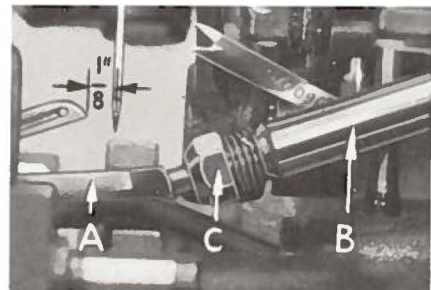
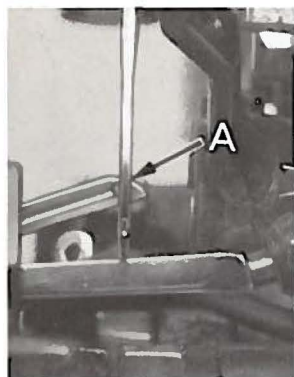

Fig. 5
Fig. 7
At this point, insert lower looper (A, Fig. 5) into bar (B). With lower looper at the left end of its stroke, set looper point $\frac{1}{8}$ inch from center of needle (Fig. 5), using looper gauge No. 21225 $\frac{1}{8}$. Do not have low-
Now finish lower looper adjustment. As lower looper moves to the right, its point should be set into the needle scarf (A, Fig. 7) until the needle springs forward from rear guard surface another .002 - .004 inch. Tighten nut (C, Fig. 5) securely.